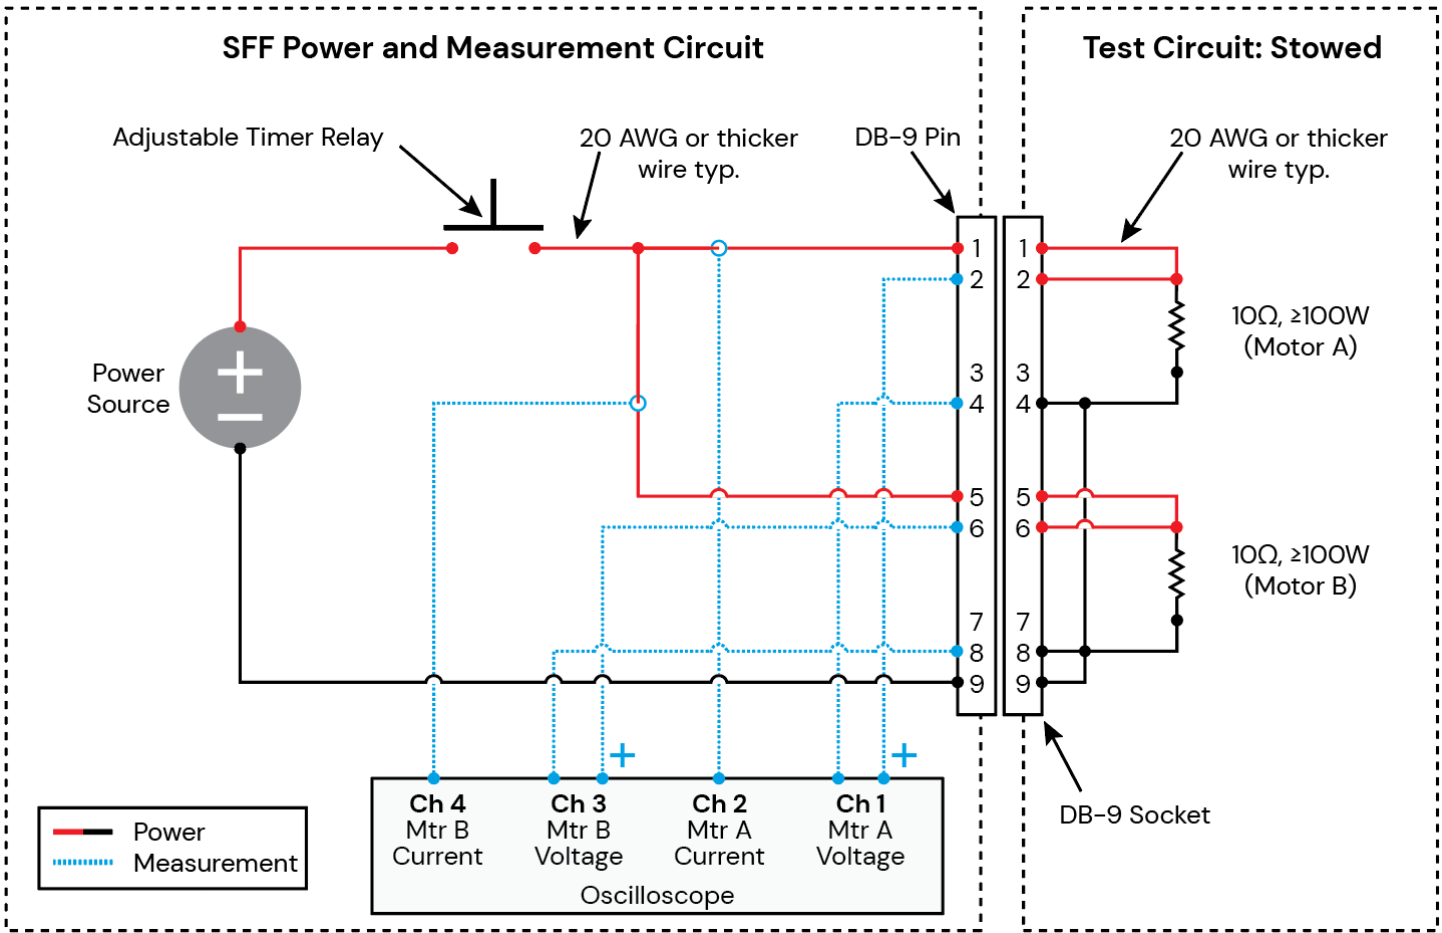

Figure 10-1: SFF test circuit #1
10.1.2	Set up the SFF Power and Measurement Circuit per Figure 10-1. Caution: If oscilloscope channels share common ground be cognizant of their effect on the circuit (see Section 17). Also, do not connect the negative voltage probe to ground as this will bypass the Lightband's limit switches and allow it to Deploy.
10.1.4	Set up the Test Circuit: Stowed per Figure 10-1.